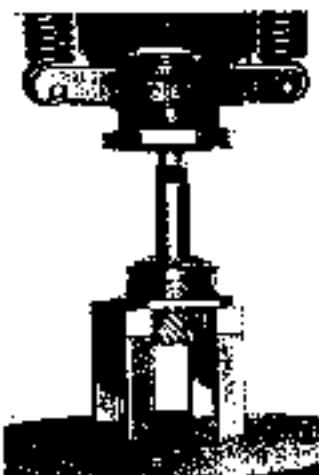

Fig. 51.
- Remove the key from its key slot in the base sleeve. Then press out the sleeve bearing from the cap of the taper roller bearing using a hand press (see Fig. 51).